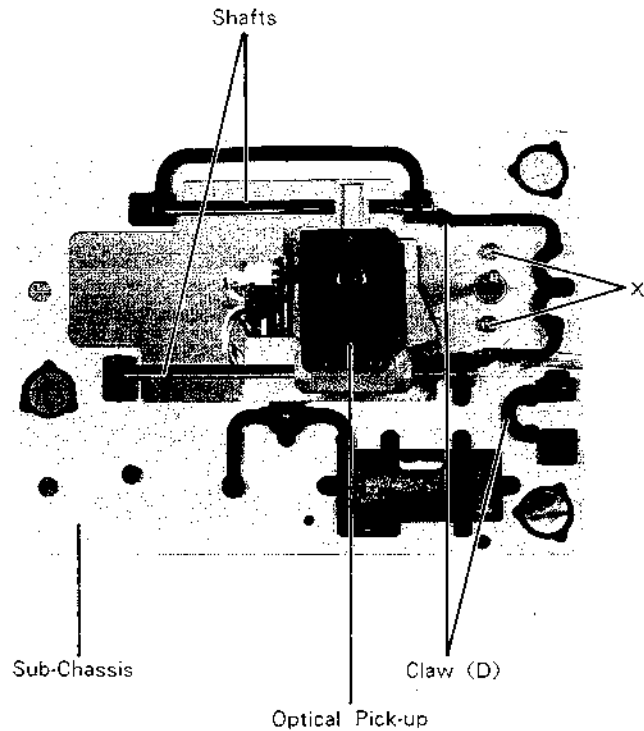

Figure 12
(2) While pressing two claws (D) in toward pull out two shafts in the arrow direction as shown in Figure 12.
(2) Remove two screws marked "×" as shown in Figure 12.